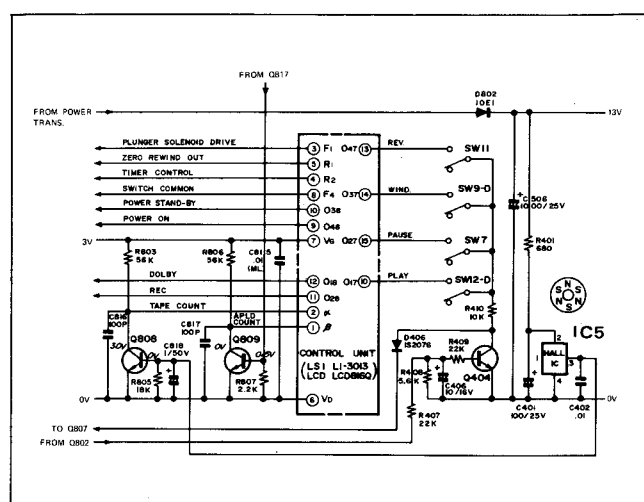

Figure 24
* Where the power switch (SW6) is set to "on" The potential at the power switch (SW6A) drops to the earth voltage and so the transistor (506) is turned off Therefore, a current runs via the resistors (R512 and R513) in the constant voltage transistor (Q501) which will be turned on. It is thus allowed for a +21V regulated power to be applied to the amplifier circuit.
■ TAPE COUNT PULSE GENERATOR CIRCUIT (See Figure 24)